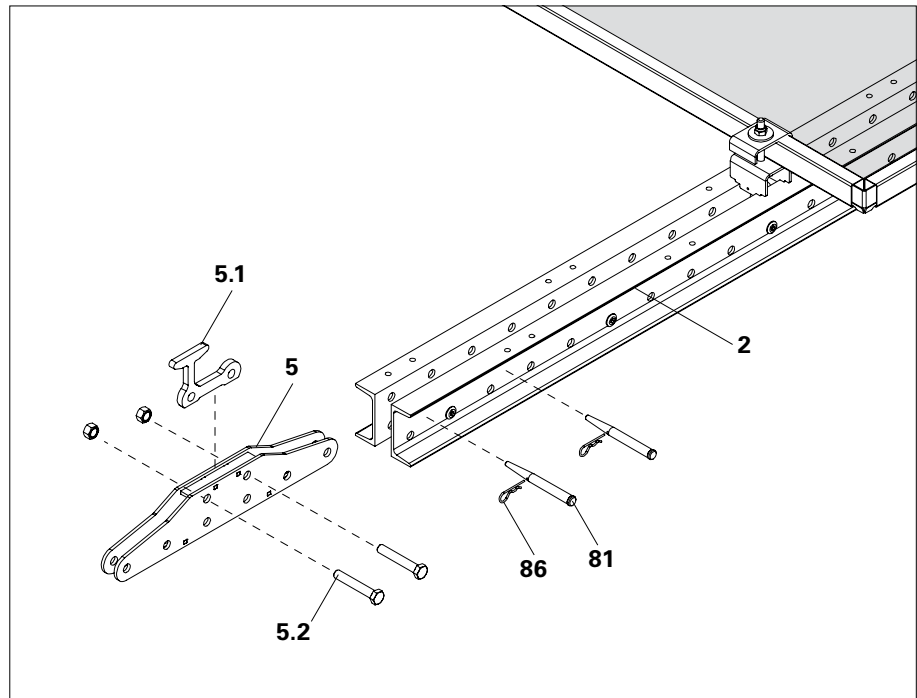

Fig. C1.09
1. Mount Screen Support LPS M20 (5.1) to Rail Connector LPS (5) using the attached Bolts M20x120 (5.2) and Nuts M20.
2. Insert Rail Connector LPS (5) into the Climbing Rail LPS (1) and secure by inserting 3x Fitting Pins \varnothing 21 (81) and Cotter Pins 4/1 (86) through holes \varnothing 21.
3. Mount Screen Element (21). There is no top Screen Adapter Single LPS 60. Instead, insert the Screen Element into the Screen Support.
4. Position climbing enclosure on the building. (Fig. C1.09 + C1.10)